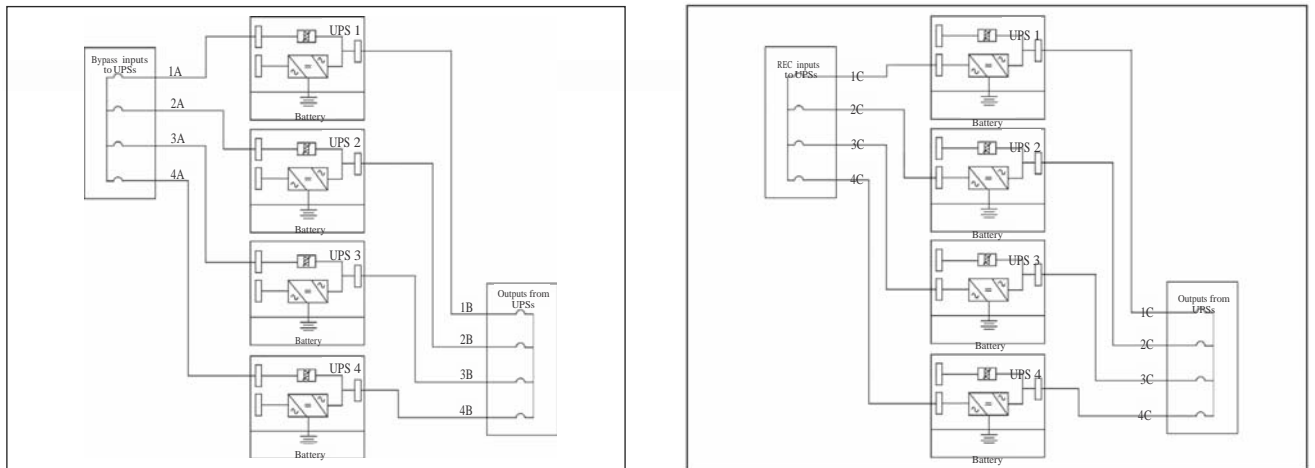

Figure 4-12. Parallel UPS system connections
4. Normally-Open REPO Switch Wiring see Table 4-4 and Figure 4-12, Normally-Closed REPO Switch Wiring see Table 4-5 and Figure 4-1.